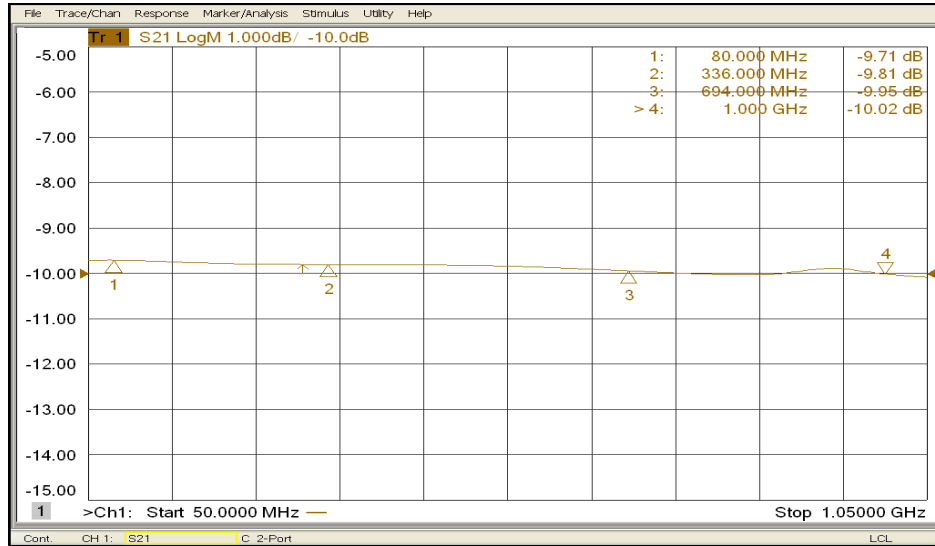

Figure 4-6. Typical Eight-Way Splitter Insertion Loss
4. 8-way splitter performance (A4, A5) and the 12-way combiner performance (A22) is displayed in Figures 4-6 and 4-7.